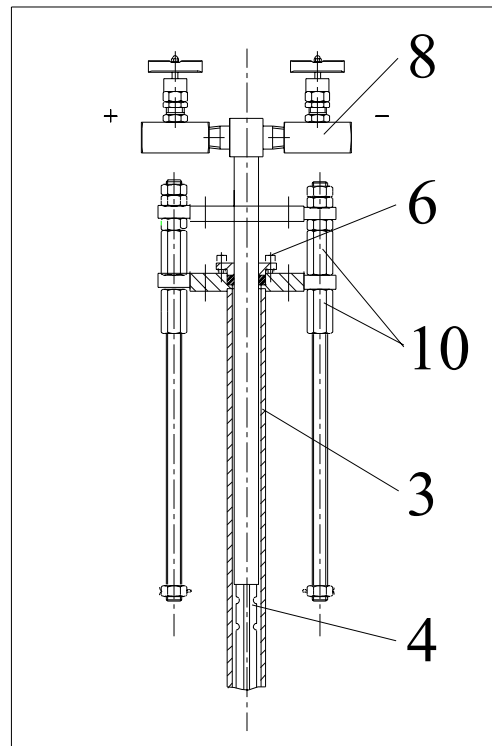

Fig. 14
1. Verify that the Flo-Tap insert-retract mechanism are in the position as shown in Fig. 14.